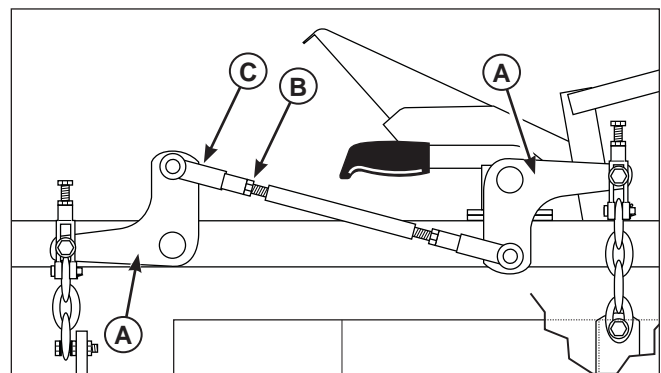

Figure 41. Deck Lift Rod Timing Adjustment
5. See Figure 41. To adjust the lift rod, loosen the jam nut (**B**, **Figure 41**) on the front clevis (**C**) and then remove the 1/2" clevis pin fastening the clevis to the lift pivot arm.